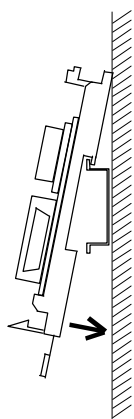

Figure 2
3. Attach the top bracket of the mother block to the DIN rail and push the lower section into place on the DIN rail. (Figure 2)
2. Snap the lower part of module mainframe on to the mother block. (Figure 2)